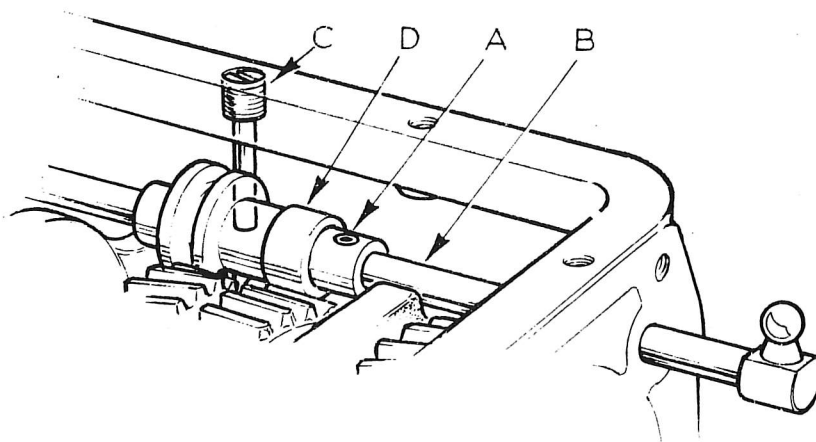

Fig. 12. INTERLOCK SPOOL AND SELECTOR SHAFT
1. Support selector extension shaft and push out roll pin (A, Fig.12). Remove shaft extension (B, Fig.12).
2. Release locating pin (C, Fig. 12) for interlock spool (D, Fig.12) at right-hand top of casing. Remove interlock spool and selector shaft (E, Fig.12).